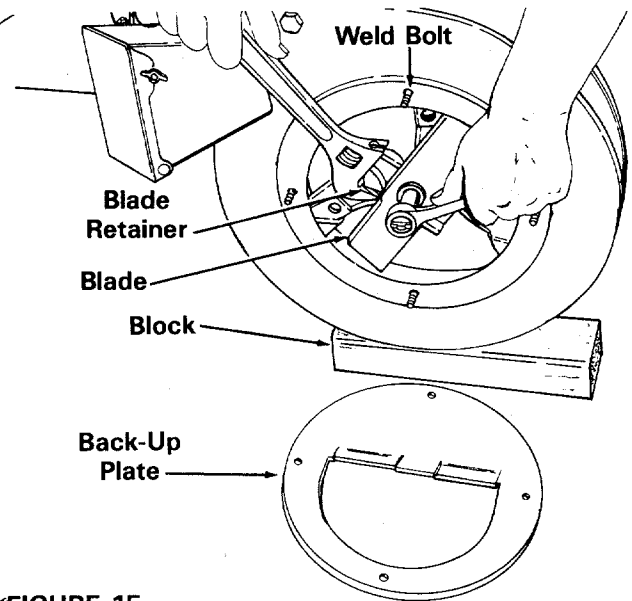

FIGURE 15.
2. Block up the housing. See figure 15.
4. Remove the back-up plate. See figure 15.
5. Hold the blade retainer on the impeller assembly with an adjustable wrench to keep the blade from turning as shown in figure 15.